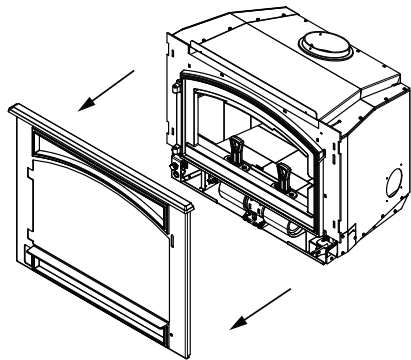

Figure 20.3
3. Remove face by lifting up then out away from appliance and set aside laying it onto a protective surface (Figure 20.3).
2. Lift surround assembly to front of appliance (Figure 20.3 on page 20).